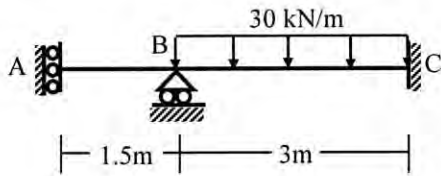

Figure 1
1. Determine the joint deflections and rotations of the beam loaded as shown in **Figure 1** [Given: $EI = 16,500 \text{ kN-m}^2$].